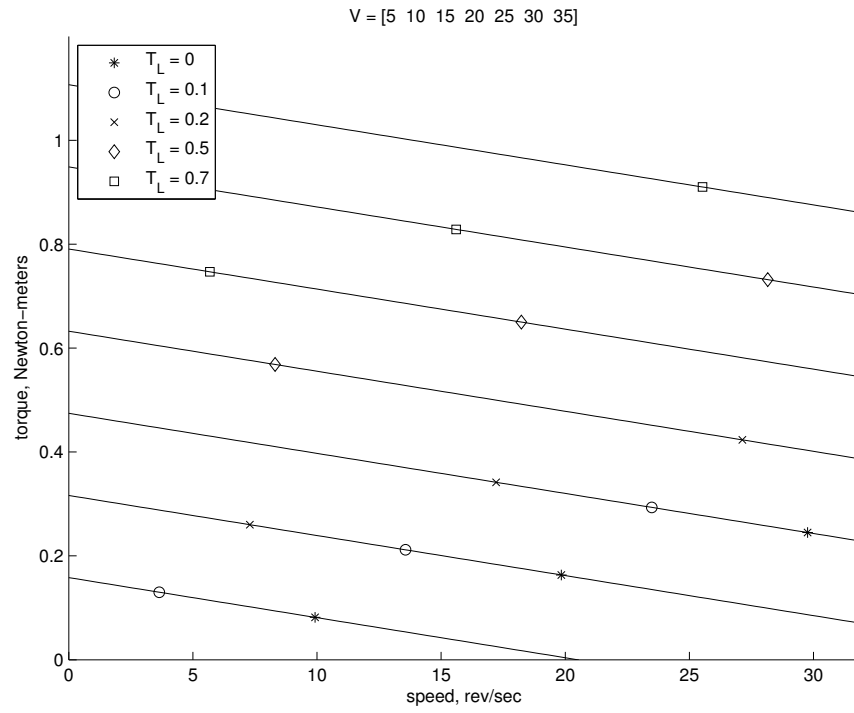
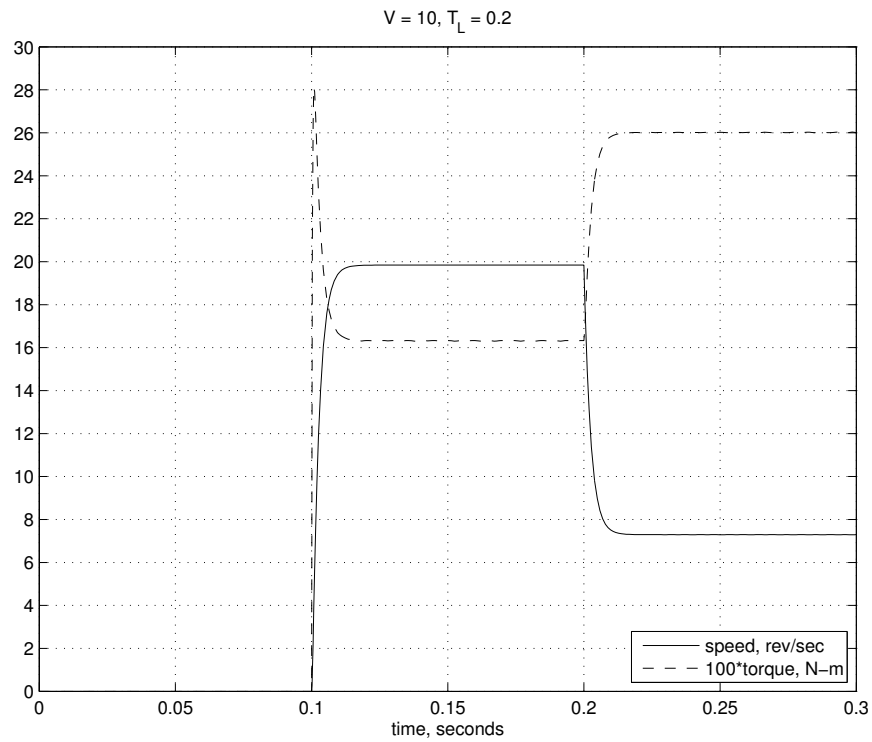

Figure 15: Torque Speed Curves
Figure 16: Response of Speed and Torque to Input Voltage and Load
These values agree with the torque speed curve in Figure 15 for $V = 10$ and $T_L = 0.2$, and the time response plots in Figure 16 after steps in both voltage and load torque have been applied². Agreement is guaranteed because the torque speed curves and the transfer functions evaluated at $\omega = 0$ both yield the same information: the steady state response to a constant input.
²Note that you may need to run the time simulation longer than depicted in Figure 16 until speed and motor torque settle to their final values. You may also need to use more significant digits for the DC gains in equations (9)-(10) to see exact agreement.